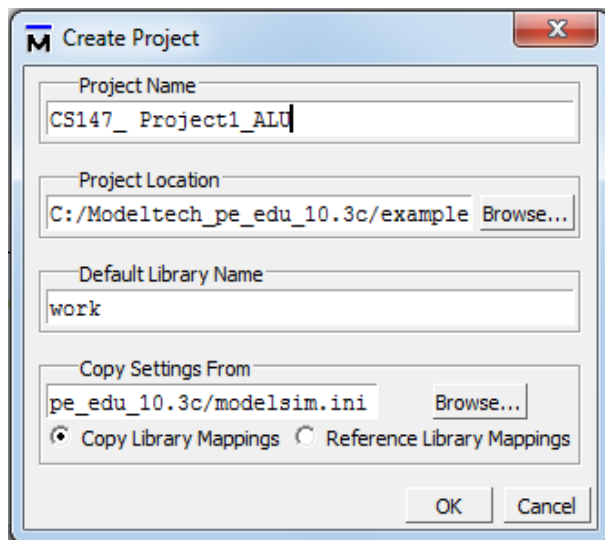

Figure 4.1 Create Project Window
- Create Project window will open as shown in figure 4.1.